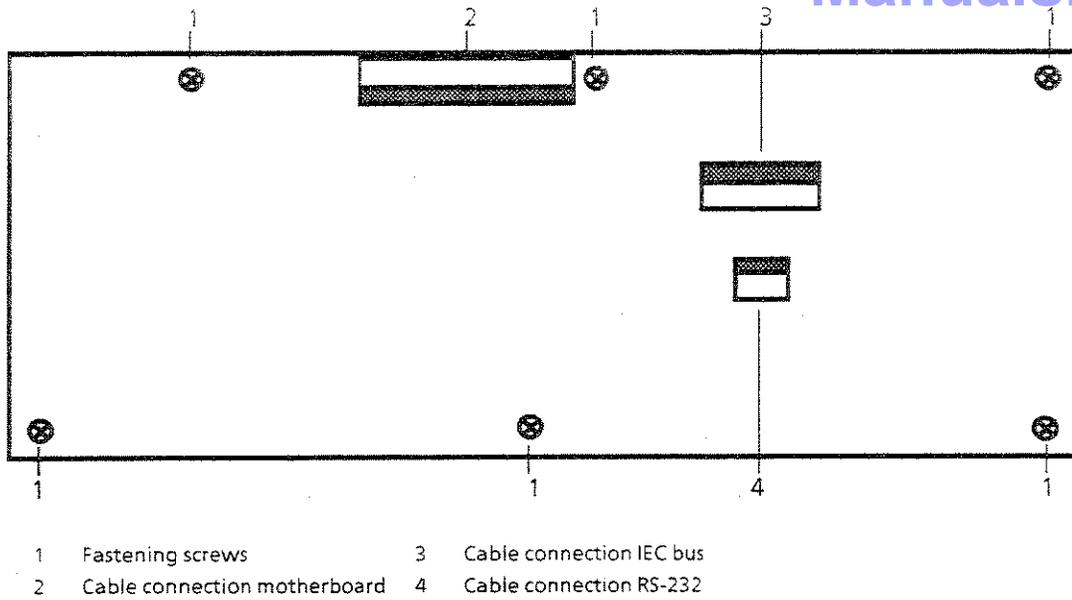

Fig. 4-1 Shielding cover of controller and front panel module
The shielding cover (cf. Fig. 4-1) of the controller and the front panel modules is now freely accessible.
- ▶ Detach cable connection to the IEC bus (Fig. 4-1, pos. 3) and to the RS-232 interface (Fig. 4.1, pos. 4). The connection to the motherboard (Fig. 4-1, pos. 2) can remain plugged in.
- ▶ Screw off cover (6 screws (Fig. 4-1, pos. 1)) and lift off.